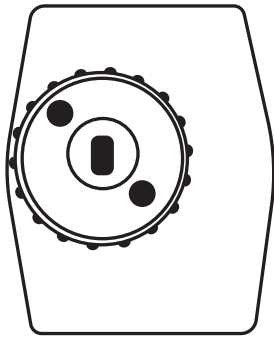
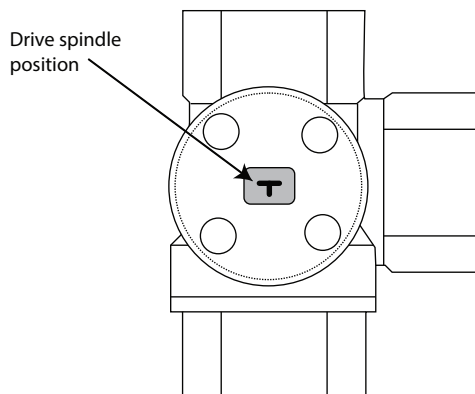
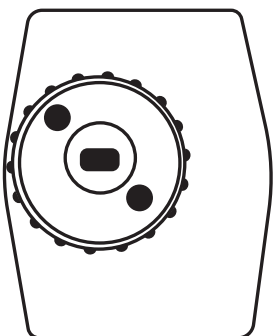
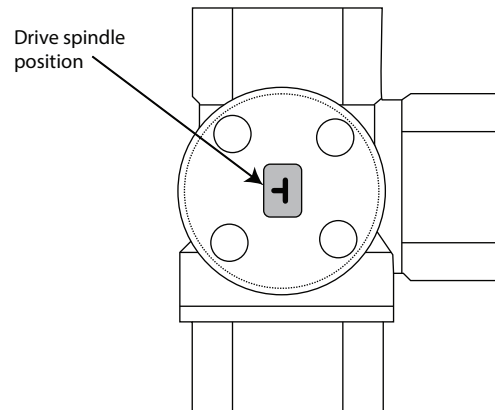

Figure B-3: Actuator spindle slot position - DHW
Figure B-4: Option 1 - Drive spindle position
Figure B-5: Actuator spindle slot position - Heating
Figure B-6: Option 2 - Drive spindle position
Before attaching the actuator head to the valve, check the position of the spindle slot. As supplied, it should be in the position as shown in figure B-3. This is the position for a DHW demand.
Refer to Figures B-4 and B-6 for the installation options based on valve orientation. These show the position of the drive spindle indicator required to ensure the valve is set to function correctly once the actuator is mounted.
- For **OPTION 1** – If the actuator spindle slot is correct in Figure B-3, set the 'T' on the end of the valve drive spindle to point as shown in Figure B-4.
- If the actuator is in the position shown in Figure B-5, rotate the drive spindle 90° clockwise from the position shown in Figure B-4.
- For **OPTION 2** – If the actuator spindle slot position is correct as shown in Figure B-3, set the 'T' on the end of the valve drive spindle to point as shown in Figure B-6.
- If the actuator is in the position shown in Figure B-5, rotate the drive spindle 90° clockwise from the position shown in Figure B-6.
The valve should be wired to the Grant Aeron Smart controller as shown in Figure B-4.